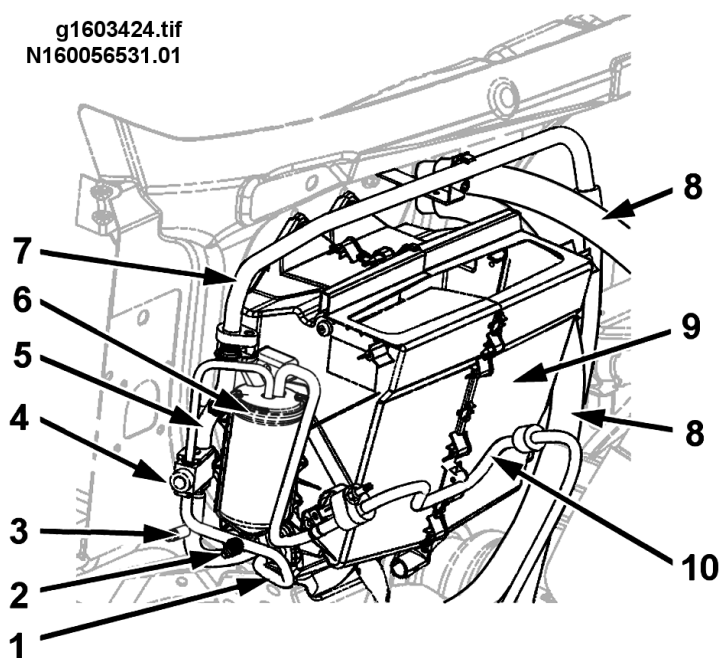

Figure 24 Evaporator Housing (Shown with Cowl Tray Removed)
5. Disconnect wiring to thermistors (2 and 5, Figure 24) and remove strap locks, as necessary, to allow connectors to be moved out of the way.
6. Unclip or remove clamps securing condenser-to-evaporator line (10) to evaporator housing (9).
7. Disconnect end of condenser-to-evaporator line from filter-drier (6).
8. Unclip clamps and/or strap locks securing evaporator-to-compressor line (7) to cowl.
9. Disconnect end of evaporator-to-compressor line from outlet thermistor line (5).
13. Using a new O-ring and C-plate connect end of evaporator-to-compressor line (7, Figure 24) to outlet thermistor line (5). Tighten to 19,000 to 21,000 N.mm (170 to 190 lbf-in).
15. Using a new O-ring and C-plate connect end of condenser-to-evaporator line (10, Figure 24) to filter-drier inlet fitting. Tighten to 19,000 to 21,000 N.mm (170 to 190 lbf-in).
16. Secure condenser-to-evaporator line to evaporator housing (9, Figure 24) using existing clamps.
17. Connect wiring to thermistors (2 and 5, Figure 24) and secure wires in original position using strap locks.